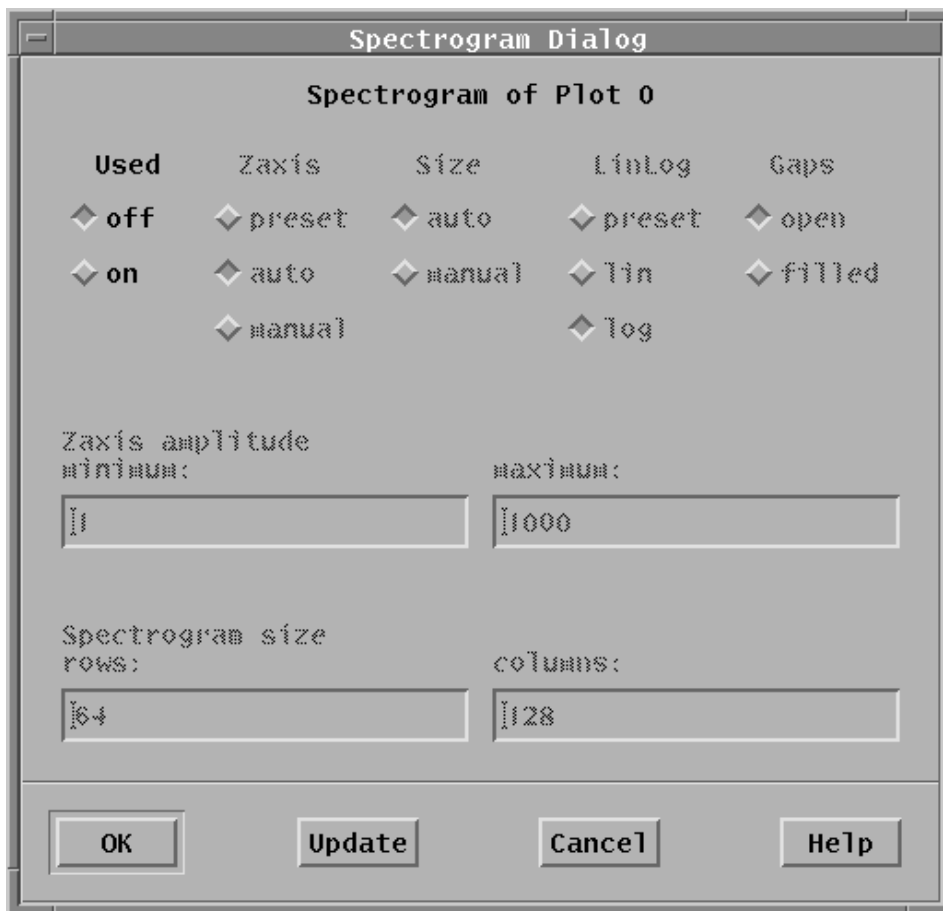

Figure 7: igr spectrogram dialog
The data in current plot can be plotted as a 3D spectrogram. The spectrogram is controlled from the Spectrogram Dialog window. The Spectrogram Dialog is selected from the *Graphics*→*Plot*→*Spectra* in the main menubar. The Spectrogram Dialog is shown in Figure 7.
**The Spectrogram Dialog** The Spectrogram Dialog window consists of five columns with radio buttons (see Figure 7).